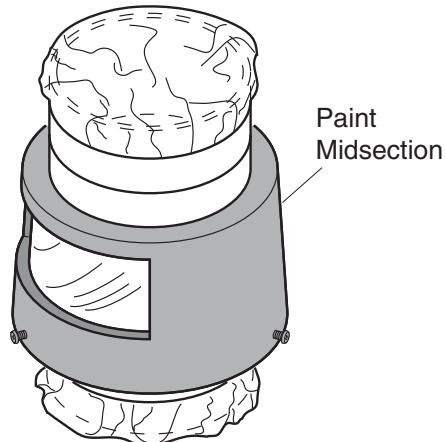

Figure 2 - Paint Midsection of Motion Sensor
5. Place sensor on newspaper and spray paint the midsection of sensor as shown in Figure 2.